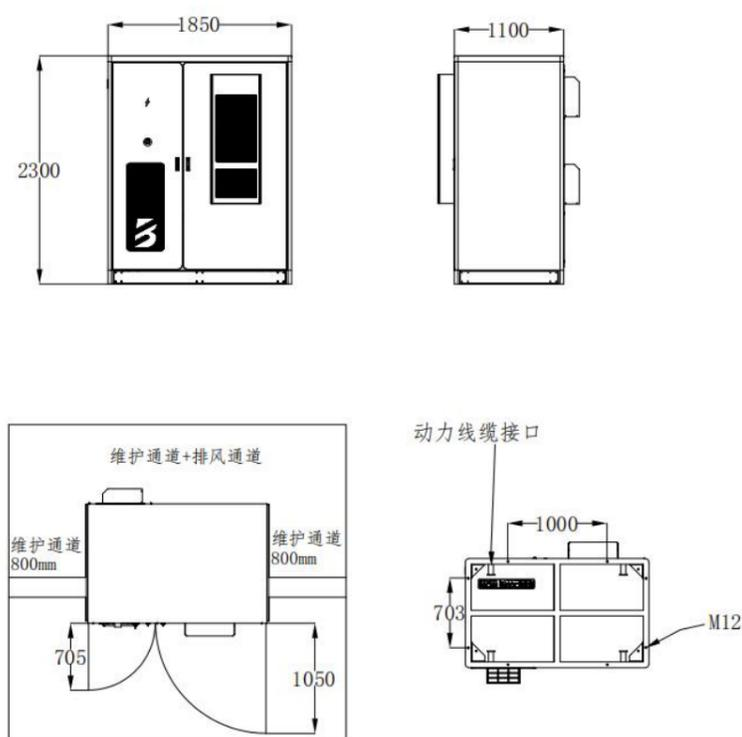

Figure 3.5-1 Foundation Reference Drawing
1. Select the equipment installation position in advance according to the product size, and position and fix it well; the suggested basis is shown in Figure 3.5-1.